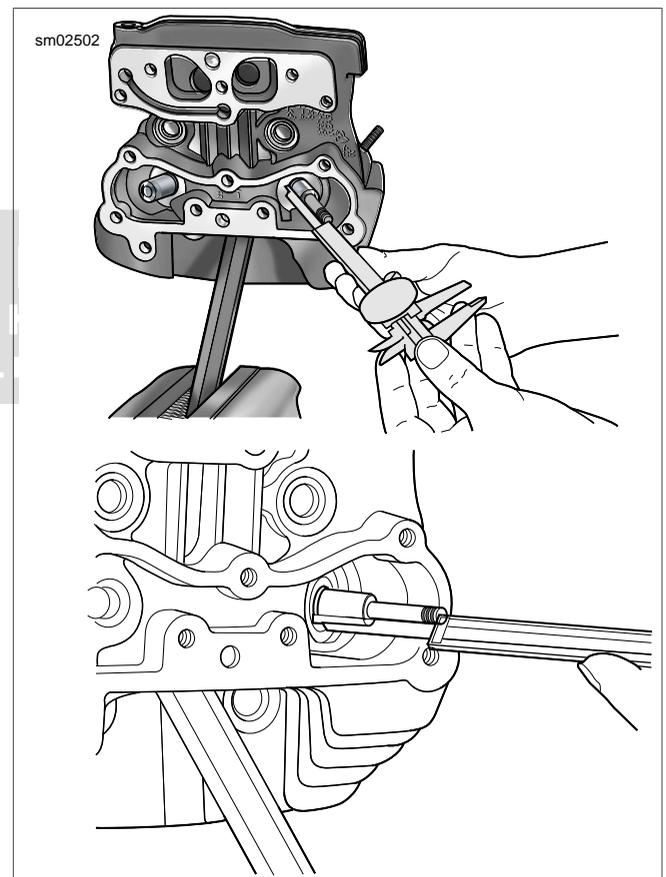

Figure 3-89. Checking Valve Stem Protrusion
4. See Figure 3-89. Measure valve stem protrusion. Seat wear causes the valve stem protrusion to change.